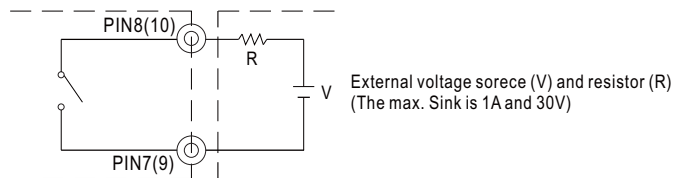

Fig 2.2 Internal circuit of AC OK (Battery Low), via relay contact
- (1) Alarm signal is sent out through "AC OK " & " Battery Low " pins via relay contact.
- (2) An external voltage source is required for this function. The maximum applied voltage is 30V and the maximum sink current is 1A. Please refer to Fig 2.2.
- (3) Table 2.1 explains the alarm function built in the power supply
- (4) AC OK signal (RL1, referring to Block Diagram) will go into hiccup mode when the overload protection is activated.